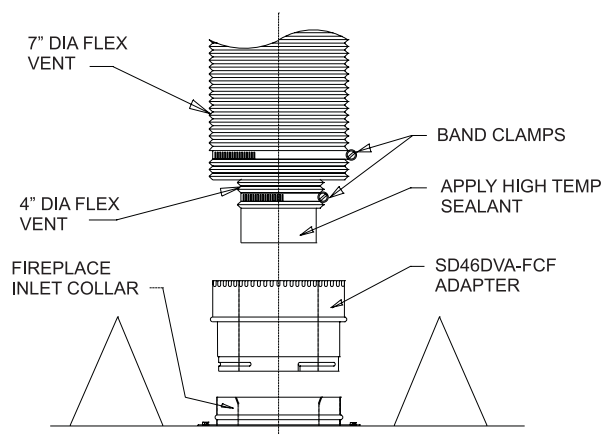

Figure 46
10. Apply sealant to the outside of the flue pipe adapter and connect to the flex flue pipe. Then insert the adapter into the fireplace flue. Secure flue adapter to the fireplace flue with a minimum of two screws provided. See Figure 46.